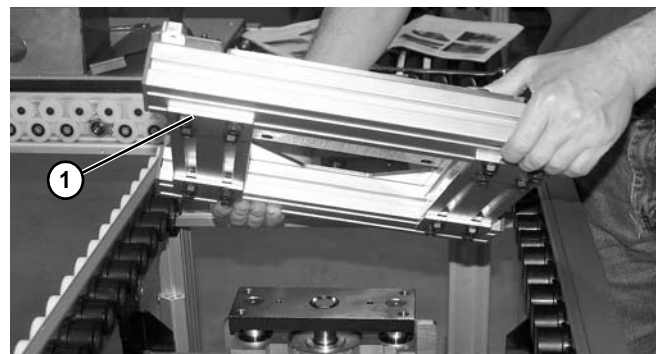

Figure 83
4. Remove lift station platform (**Figure 83, item 1**) from lift cylinder.